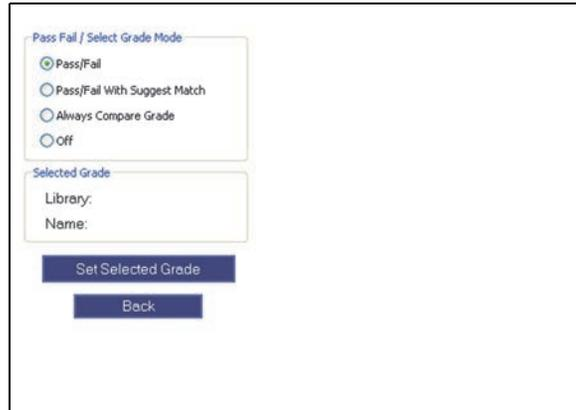

Figure 2-22 The Pass Fail / Select Grade Mode pane
7. Click **Select** to save your selection and return to the **Pass Fail / Select Grade Mode** pane (see Figure 2-22 on page 62).